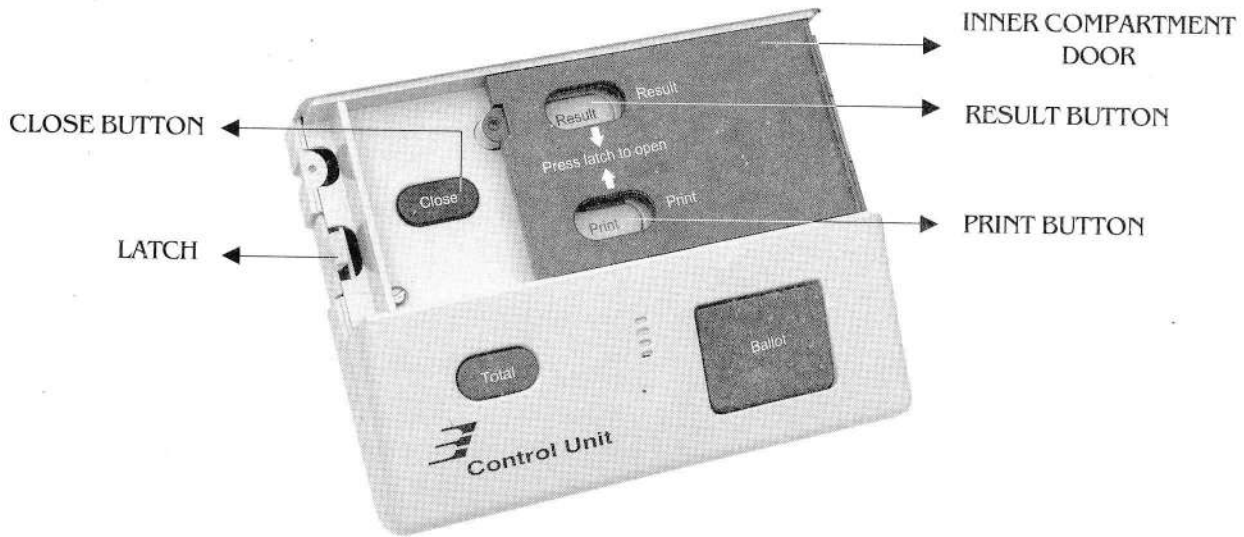

FIG. 9 View of outer compartment of Result Section
21. Top cover of the result section has an elliptical aperture covered by a flap on the left hand side under which the 'Close' button is located. The left portion of the result section houses a black 'Close' button and the right portion has an inner compartment with its own door (Fig. 9).